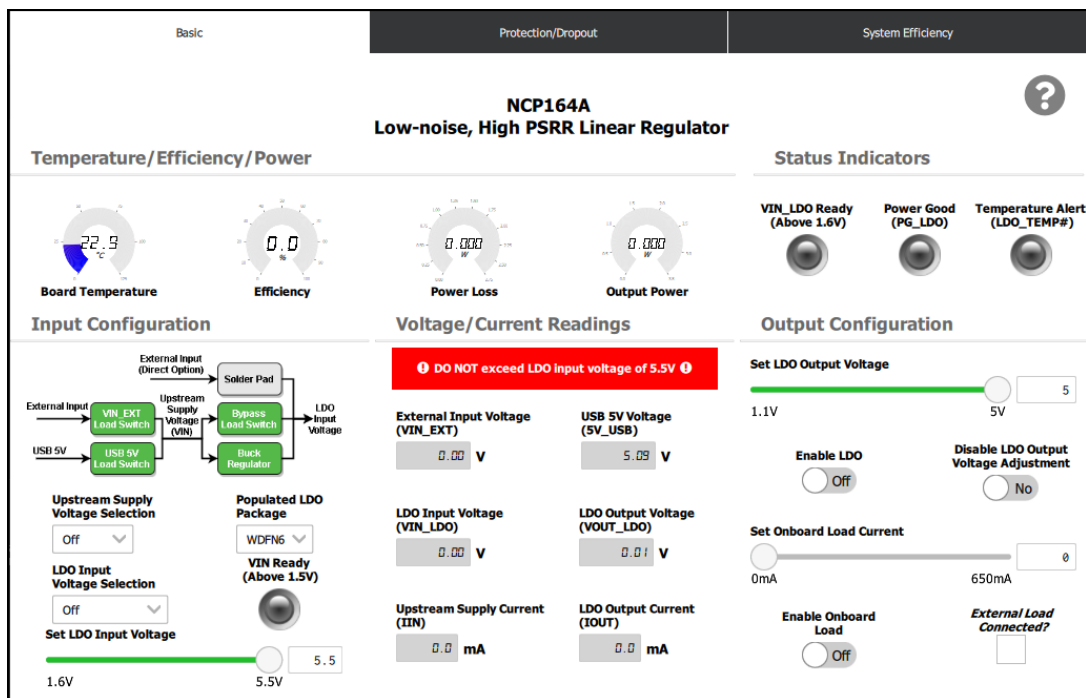

Figure 3: "Basic" UI view
6. The main “Basic” view that comes up (shown in Figure 3) offers basic telemetry, LDO upstream supply voltage selection, LDO package selection, LDO input voltage selection, LDO input/output voltage adjustment, LDO_enable toggling, onboard load enable toggling, and onboard load current adjustment.